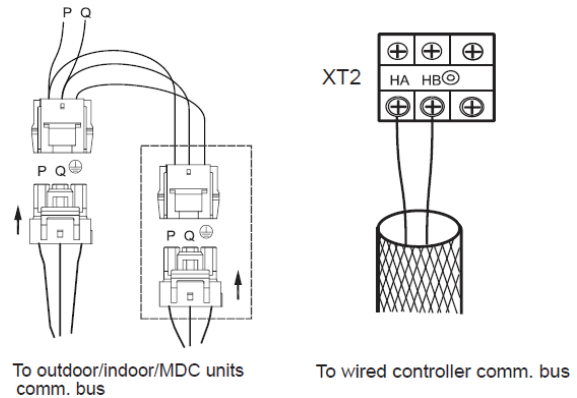

Fig. 19 —Communication Wire Connection
- See Fig. 19 for an example of communication wire connection.